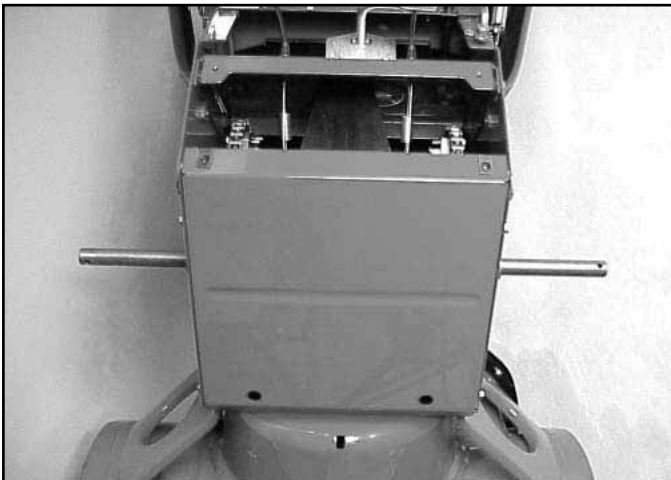

Fig 174 MVC-872XYX.jpg
24. Install the lower cover (Fig. 174).